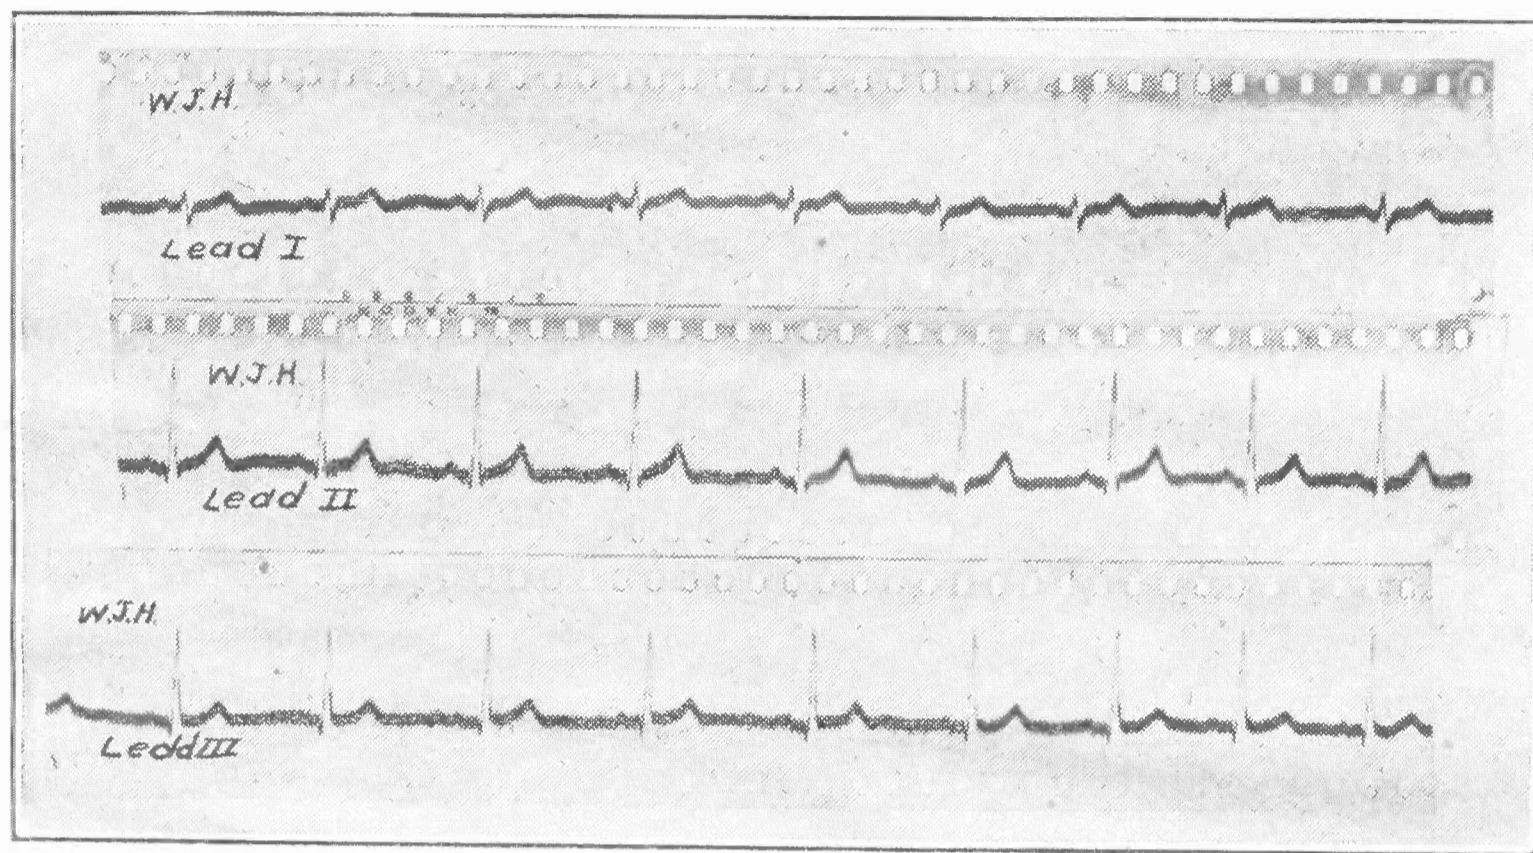

Fig. 2. Movie Film of Heart's Wave Length
The record is made on a movie film. Three samples are shown in Fig. 2. You can see the holes along the edge of the film which are used by the clock work to drive it forward at a constant rate of speed. The black wavy line has been traced out by the light reflected from the tiny mirror as it wobbles back and forth. A high peak in this line means that at that instant the heart of the patient gave a beat and of course the higher it is the more powerful was the electrical impulse.
Fig. 2 shows the voltage variation as described above, (1) arm to arm; (2) left arm to leg; (3) right arm to leg. The record as shown was of a person in normal health. In disease all three records would be distorted and the particular shape of wave motion would be different with each separate kind of disease which affected the heart. Troubles like halitosis will not show up.